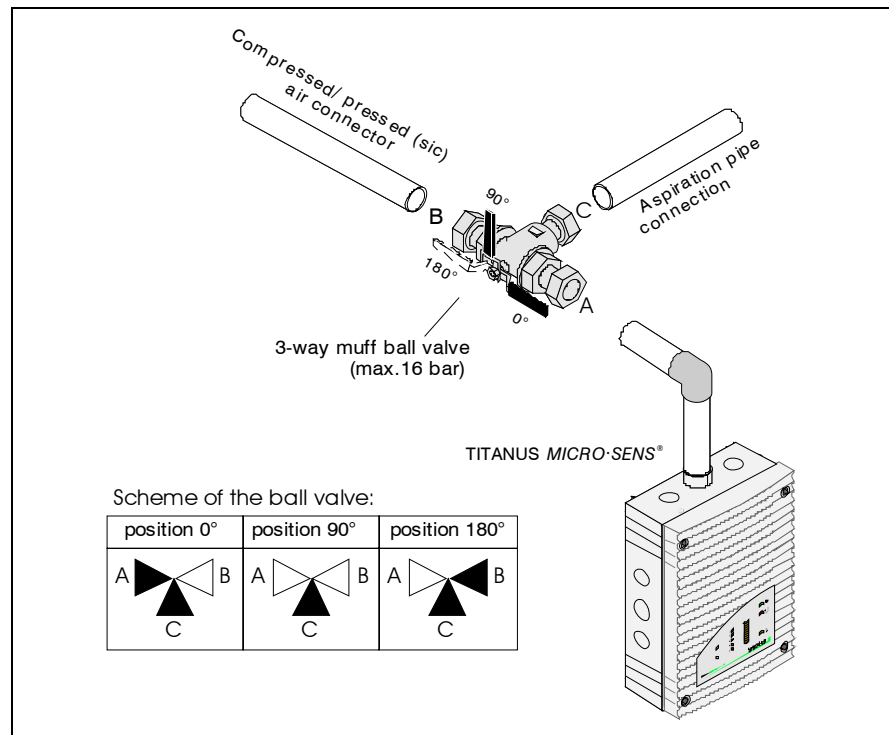

Fig. 8.7: Lever position on the ball valve
2. Separate the pipe system to be blown through by the 3-way muff ball valve from the corresponding device, by moving the ball valve lever from the 0° operating position to the 180° position (see Fig. 8.7).